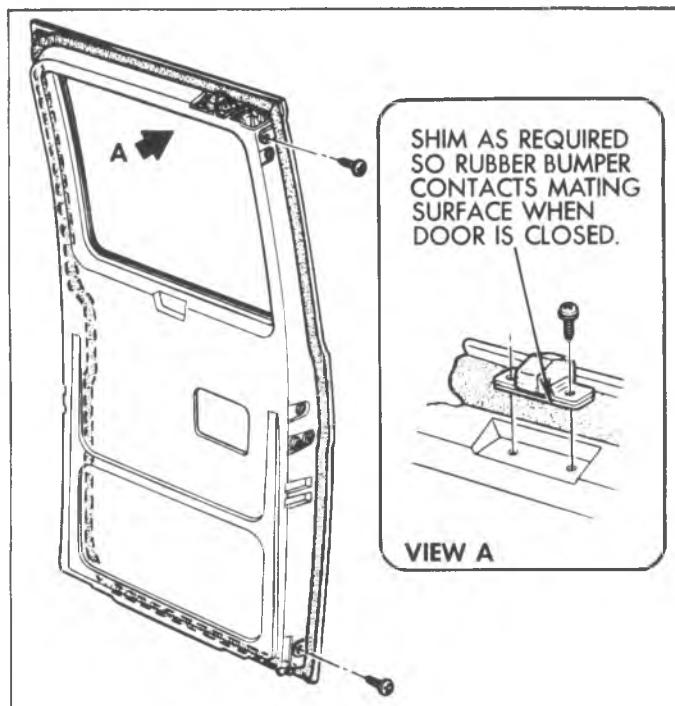

Fig. 37G—Door Wedge Adjustment
2. Adjust door wedge by adding or deleting shims as necessary so that wedge contacts bumper on door when door is closed. See figure 37G.